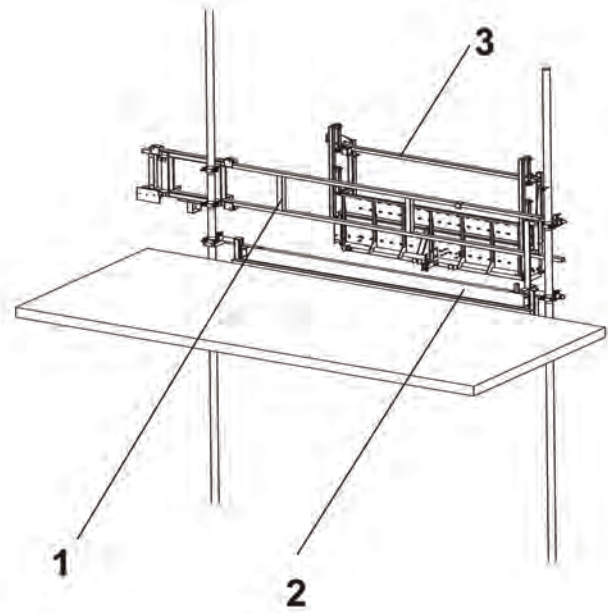

Fig. 7-11 Transfer plate
- Lower the transfer plate (see section 7.9). The sliding door (fig. 7-1, 1) will be unlocked mechanically when the transfer plate (fig.7-11/12, 2) is pushed down by the loading platform.
- Open the landing barrier (fig.7-11, 3)
- Open the sliding door (fig. 7-11/12, 1)
- Close the sliding door (fig. 7-11/12, 1) to prevent the transfer plate from being locked mechanically in the open position.
- Close the landing barrier (fig.7-11, 3)